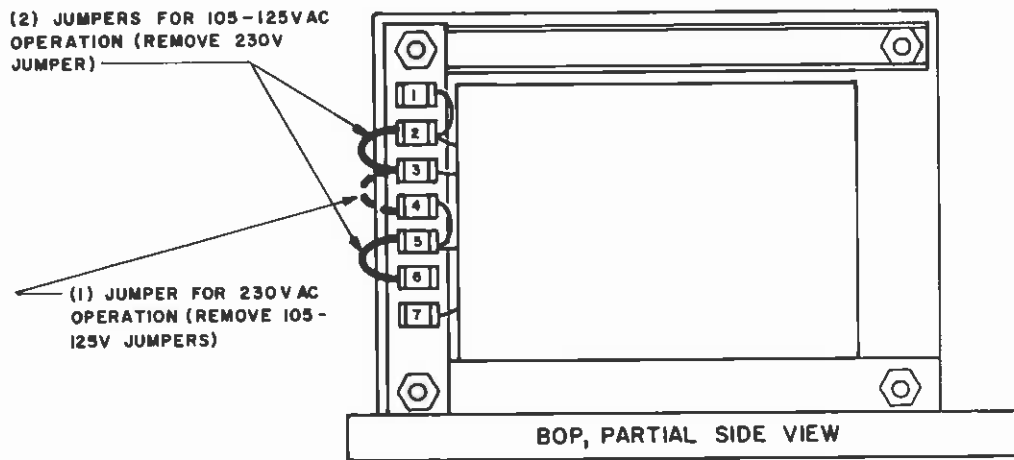

FIG. 2-4 MAIN TRANSFORMER PRIMARY CONNECTIONS
- 2-6 PROCEDURE (Refer to FIG. 2-4.)
- Unsolder and remove the bare wire jumpers between transformer terminals (2) – (3) and (5) – (6).
- Connect and solder new jumper between transformer terminals (3) – (4).